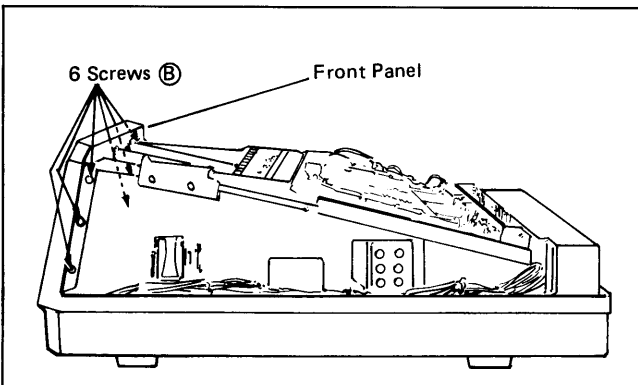
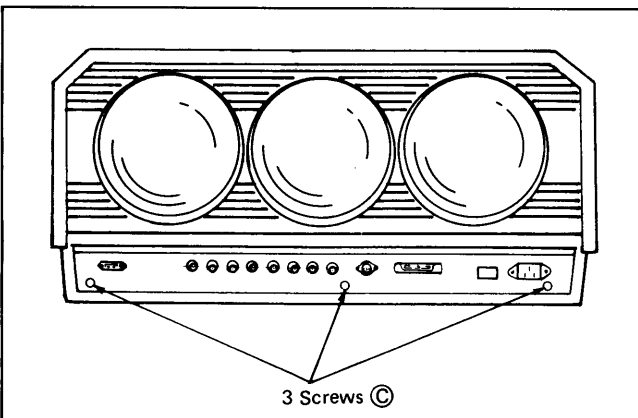

Fig. 3
Fig. 4
- 1) Remove 6 screws (B) as shown in Fig. 3.
- 2) Remove 3 screws (C) as shown in Fig. 4.
- 1) Remove the Front Panel as shown in Fig. 3 and Fig. 4. (Remove 6 screws (B) and 3 screws (C))